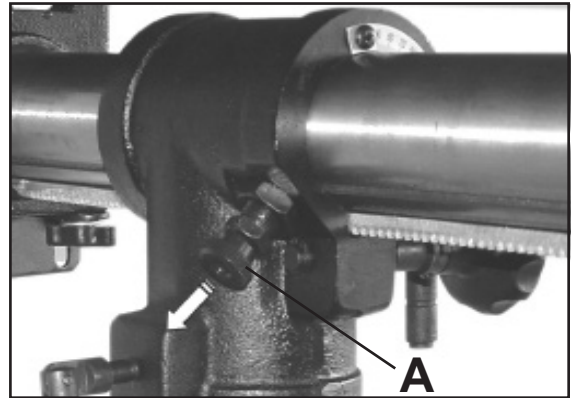

Figure 19
2. Pull the guide pin out on the left side of the drill press head (A-Fig.19) and rotate 90°. The head may be tilted to the desired angle.